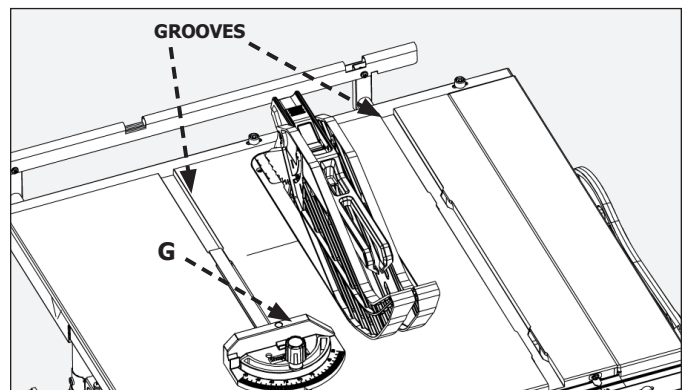

FIGURE 36
There are two miter gauge grooves, on either side of blade, maximum 30°. When making a 90° cross cut, use either groove. For beveled cross cut use the groove on right so that the blade is tilted away from the miter gauge (G) and hands (FIGURE 36).